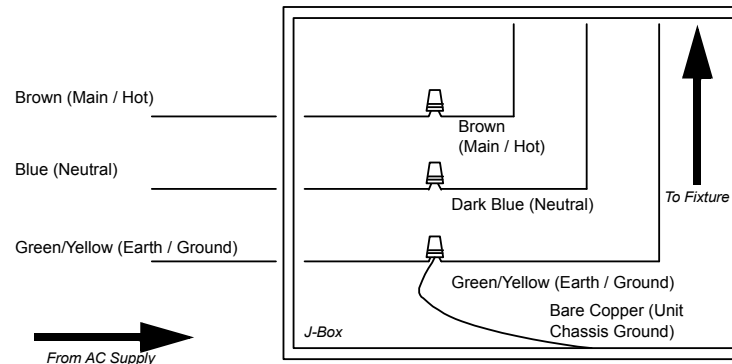

Figure 7: J-Box Electrical Connections - Other Than 120VAC Markets
- 1) Remove cover from Junction (J) Box.
- 2) At J-Box, remove the Thermal Protective Switch as shown in **Figure 7** and discard. It will not be used.
- 4) Connect AC input wiring as illustrated in **Figure 7**. Refer to "Power Requirements" on page 7 for power requirements.